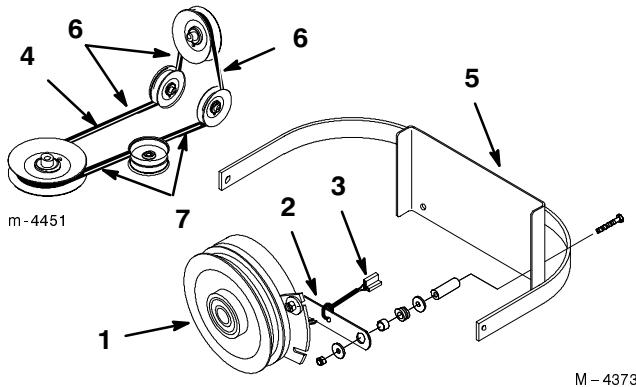

Figure 52
2. Remove the clutch retaining strap from machine frame and unplug clutch terminal from wire harness (Fig. 52).
3. Remove PTO drive belt from rear idler arm and front idler pulley assembly. Remove the PTO drive belt (Fig. 52).
4. Place new drive belt over clutch, around rear idler pulley, installed into rear idler arm assembly, installed into front idler pulley assembly and onto top center pulley (Fig. 52).
Important Check the amount of twist in belt between pulleys. Make sure it is only what is specified in figure 52.
5. Install clutch retaining strap and plug clutch terminal into main wire harness (Fig. 52).